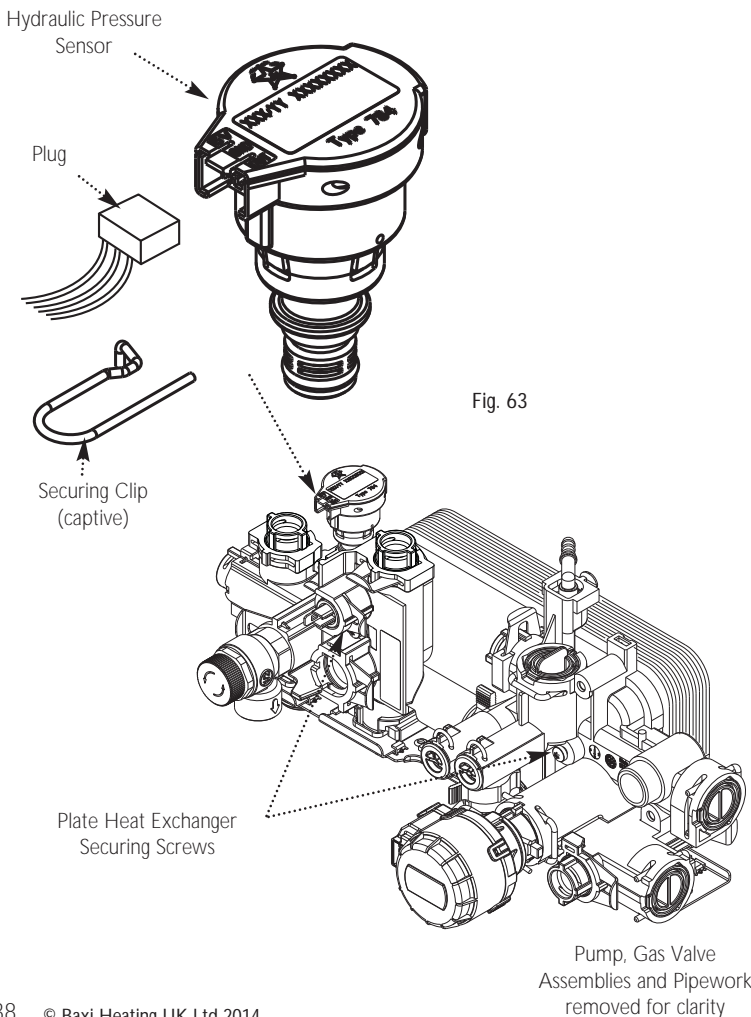

Fig. 63
13.16 Hydraulic Pressure Sensor (Fig. 63)